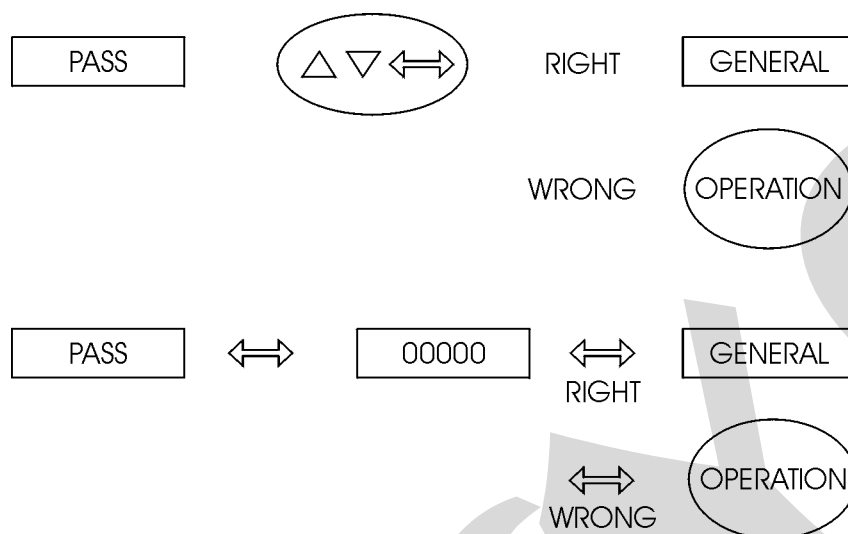

Fig. 7 - Password through key sequence or value
- To display the PASS warning, indicating that the instrument is provided with a password system (a key sequence or a value), according to Figure 7.
For a value password, the user must press the ENTER key for a second time in order to view the number 00000 with the right end digit blinking. The position which is blinking indicates the digit in the number to be changed by the user with the UP and DOWN keys. Move to the digits on the left by pressing ENTER. After entering all digits, press ENTER again. If the password is correct level 1 is accessed; otherwise, it returns to normal operation (see Figure 7).